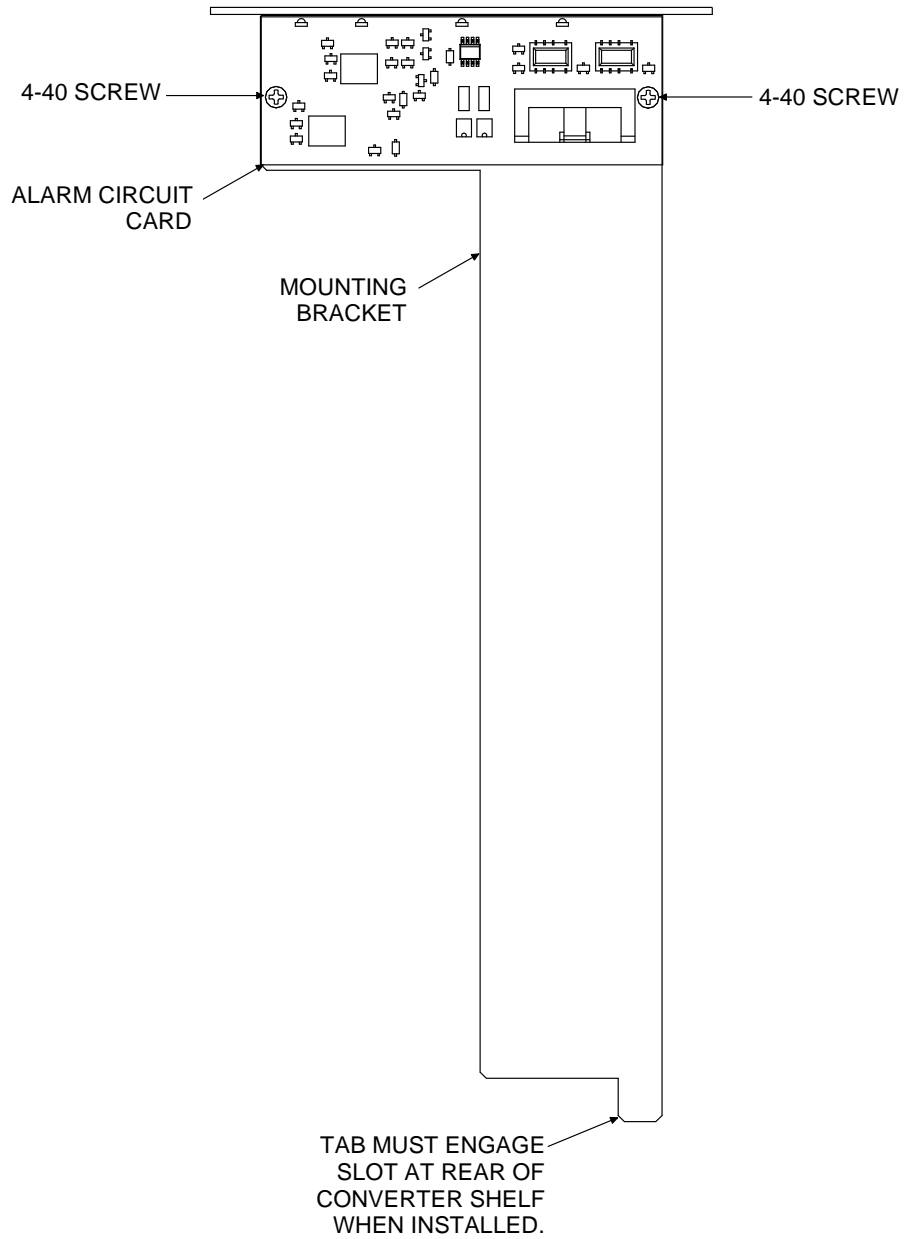

Figure 8
- 5) Remove two screws and lock washers that secure the alarm circuit card to its mounting bracket. Remove the circuit card. Refer to Figure 8.